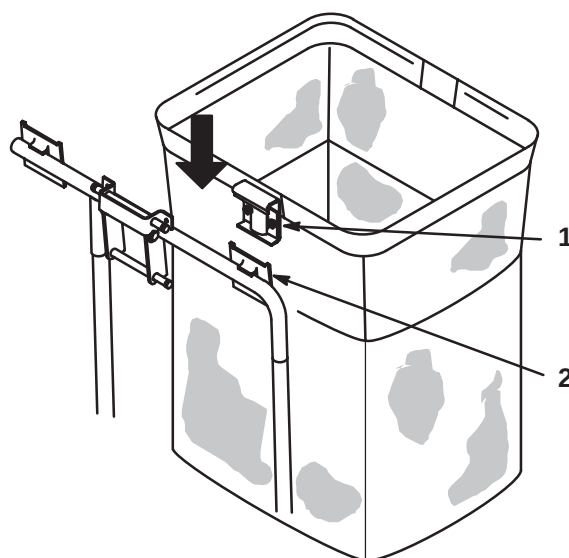

Figure 33
3. Compress debris into the bags. With both hands, lift up on the bag and unhook it from the retaining bracket (Fig. 33). Empty the bag. Repeat the procedure for the other bag.
4. Install the bags by sliding the bag frame hooks onto the retaining brackets (Fig. 33).